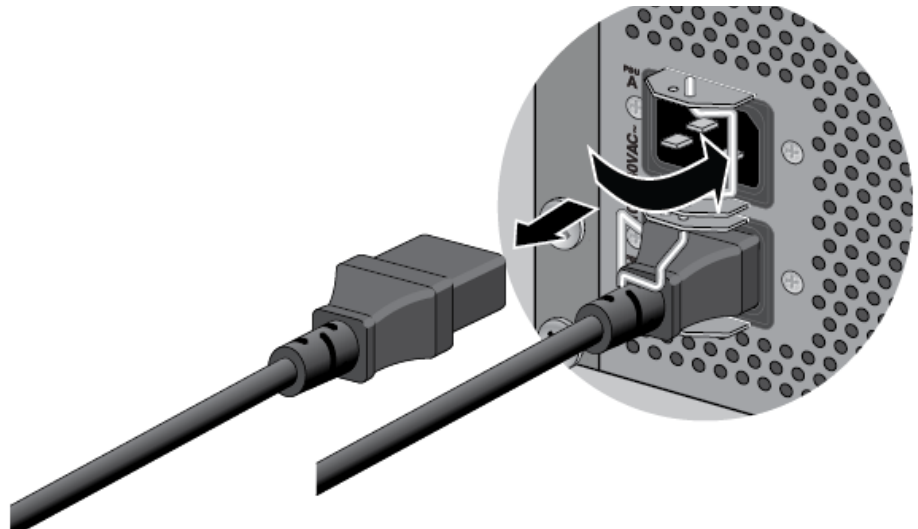

Figure 104. Disconnecting the AC Power Cord from the Chassis
2. Move the retaining clip from the power cord on the rear panel of the chassis, and disconnect the cord. Refer to Figure 104.